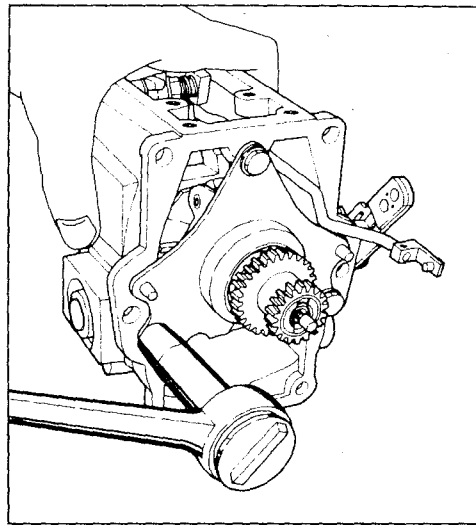

FIGURE 2-199
- (26) Install the support plate securing screws and lockwashers. (See figure 2-199). Tighten screws to required torque value per Torque Chart, Section XI.